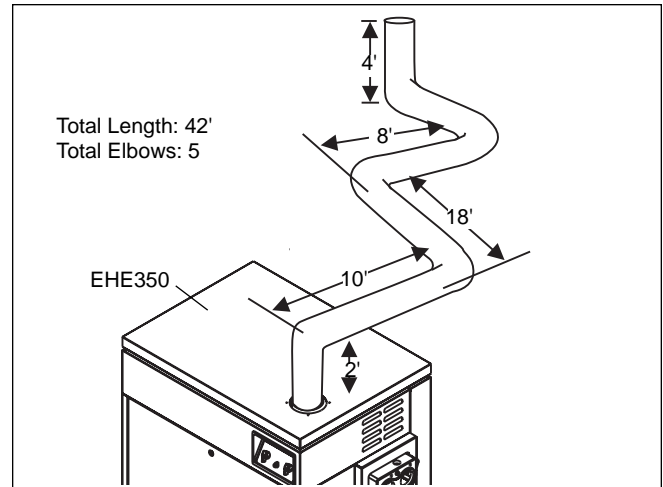

Figure 6. "One-pipe" installation.
1. A Model 350 heater is to be installed in a one-pipe system (see Figure 6). The vent pipe is 42 feet long and has five elbows. Per Table 3, 5" piping must be used. (Only 16 feet of 4" vent pipe would be allowable.)